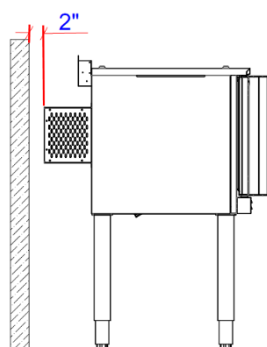

Fig.1
4. Install the unit at least 2" from the wall if the wall does not bear a minimum temperature of 300F (see Fig.1). If the unit is placed very close to the wall, partition walls, kitchen cabinets, decorative walls, etc., we recommend that they are made with a non-combustible material with a proper thermal insulation. Pay close attention to regulations concerning fire prevention.